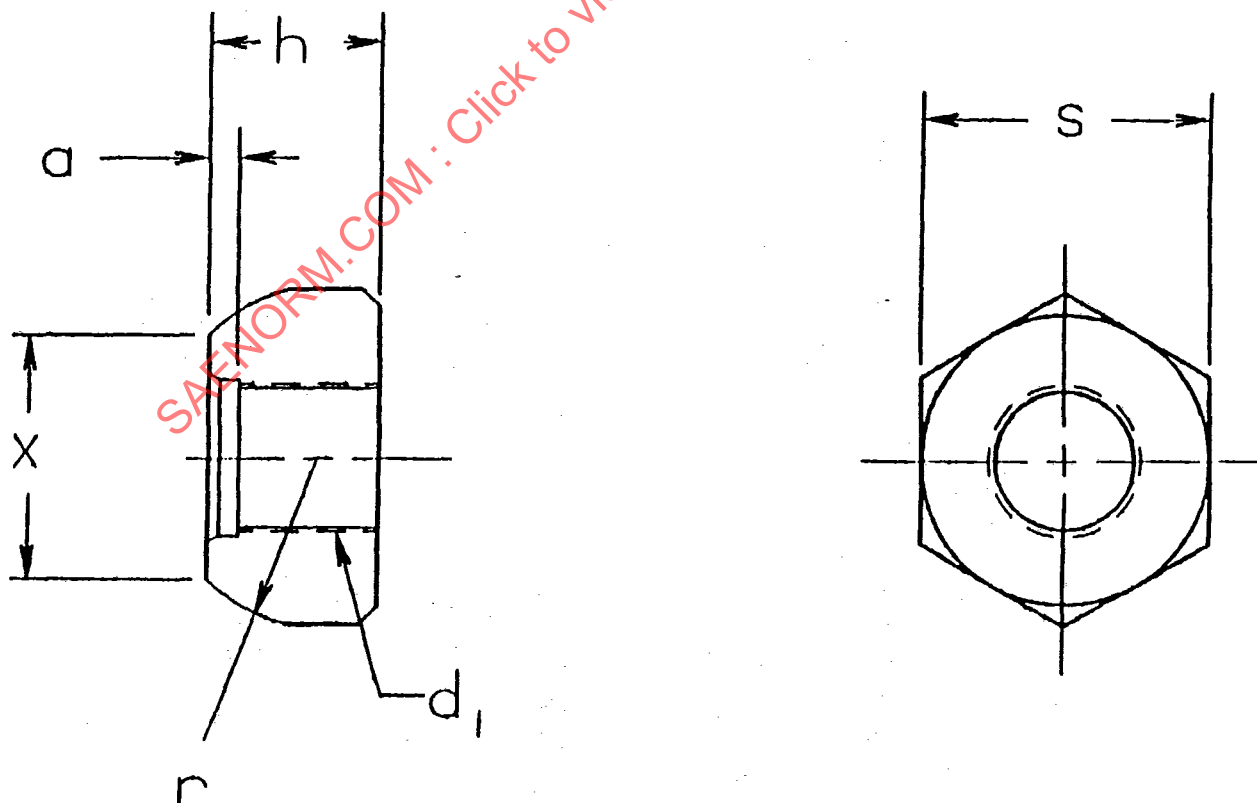

FIGURE 8 - Single or Outer Dual Ball Seat Nut for Ferrous Wheels
6.3.1 Definitions of Fastener Dimensions (Reference Figs. 8, 9, 10, 11, 12, 13):